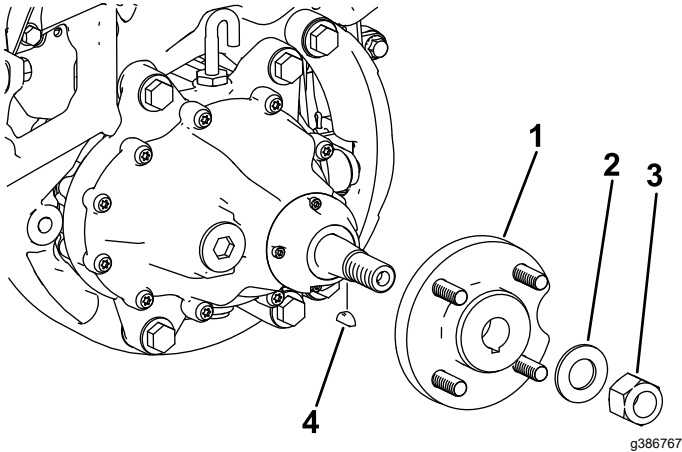

Figure 8
1. Install the previously removed wheel hub with the corresponding locknut and washer (Figure 8).
3. Install the woodruff key (Figure 8).